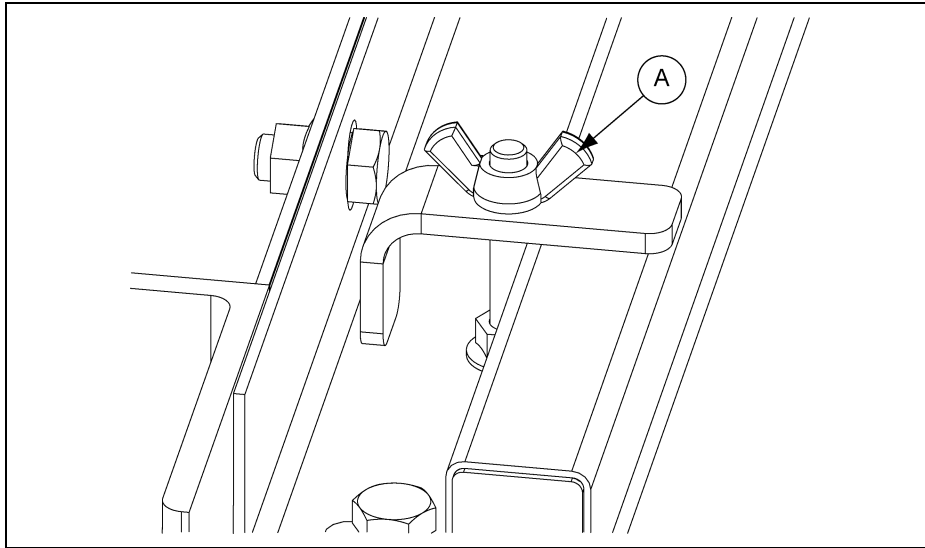

Figure 4F
1. Fasten covers to the belt conveyor with the M10 easy grip handles provided. Adequately tighten the M10 handles so that the covers are in tight contact with conveyor cross channels. (See Figure 4F.)